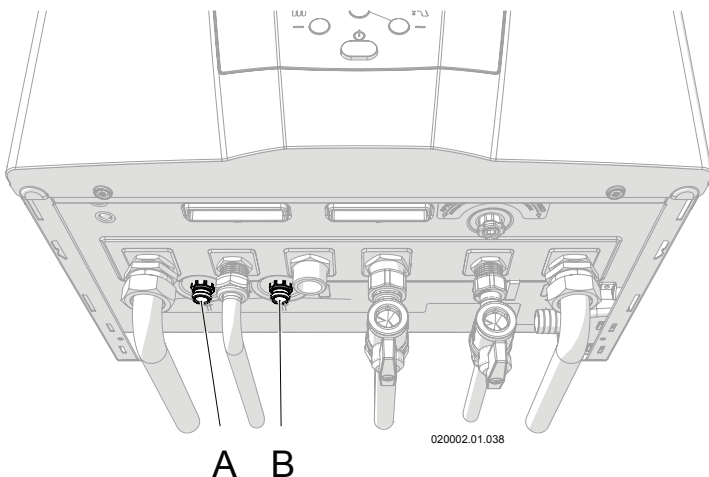

Figure 8-18 – Heating circuit drain valves
- 5.- Connect a hose to drain cocks "A" and "B" (see figure 8-18) and convey it to a sink drain or similar;
- 8.- Once all of the water has been evacuated, close all of the heating element vent valves and drain cocks "A" and "B" in figure 8-18.